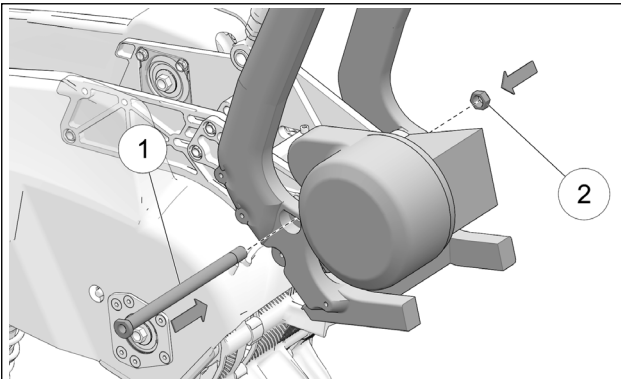

Figure 22
- Attach YETI to bike by reinstalling swing arm assembly bolt (1) and nut (2). See Figure 22.